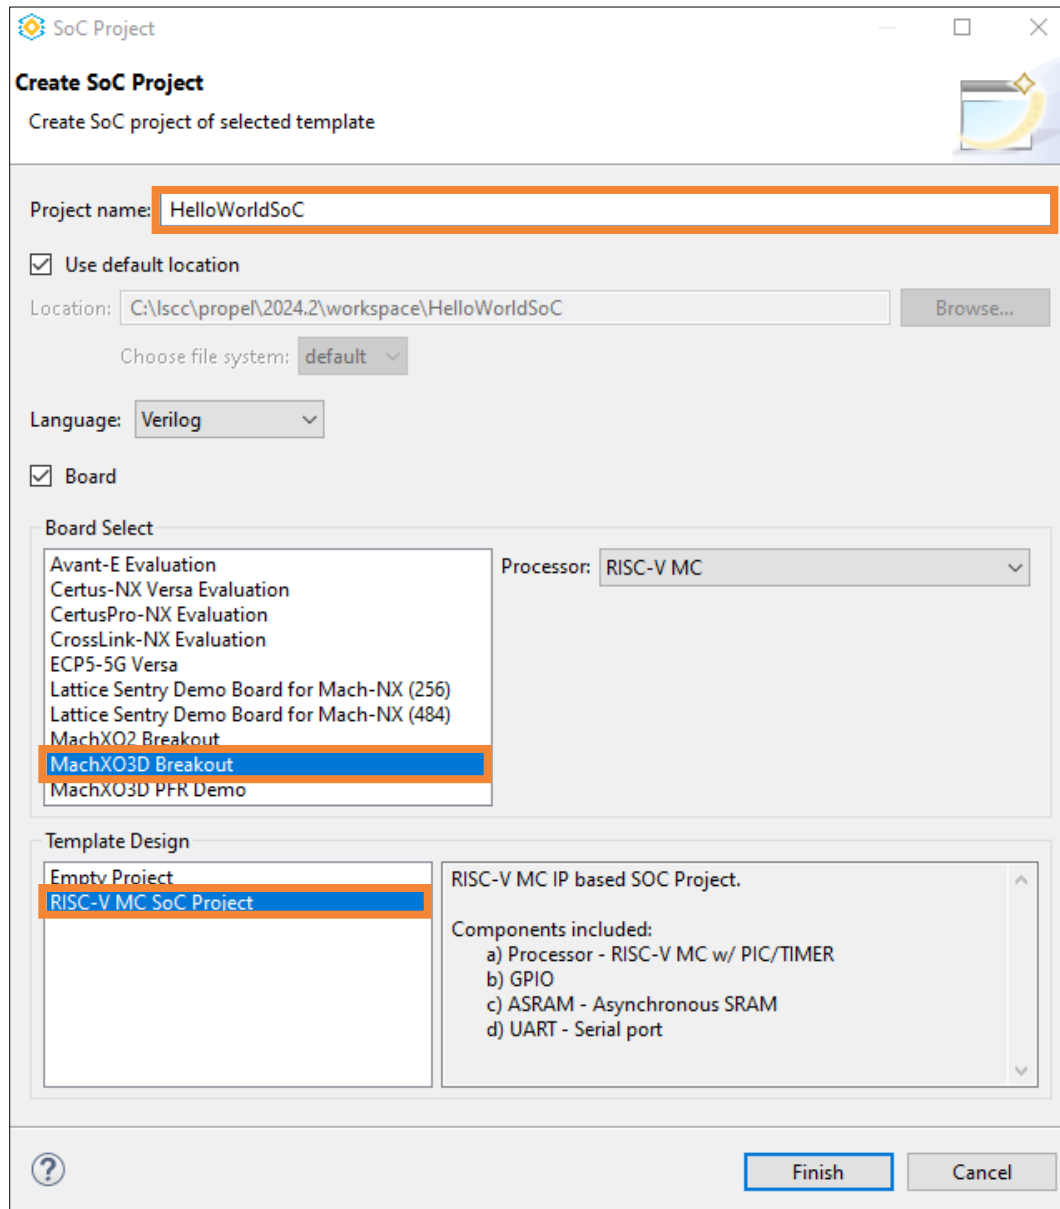

Figure 4.3. Create SoC Project Wizard 1
2. The **Create SoC Project** wizard opens (Figure 4.3). Enter a project name, such as **HelloWorldSoC**. Select the **RISC-V MC SoC Project** template.